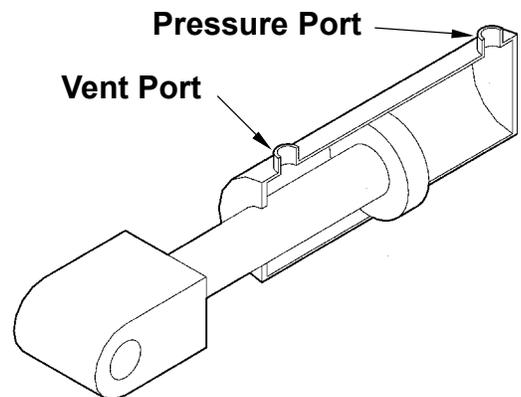

FIGURE 3
3. Check the Hydraulic Cylinder. With the Platform on the ground, remove the Breather Plug or Vent Line from the Vent Port of the Cylinder. Raise the Platform to be level with the bed. If hydraulic fluid streams from the Vent Port, the Piston Seals are worn. Replace the Seals. (See Fig. 3).